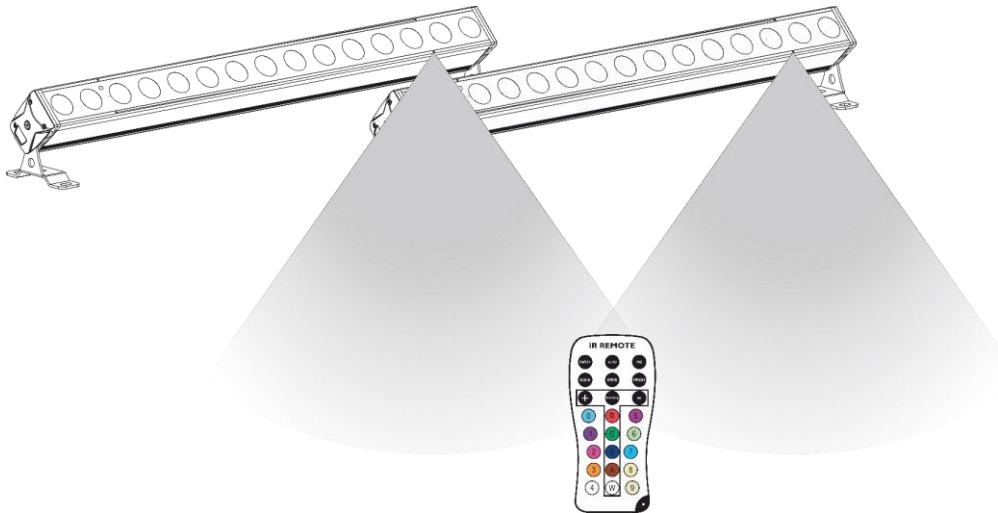
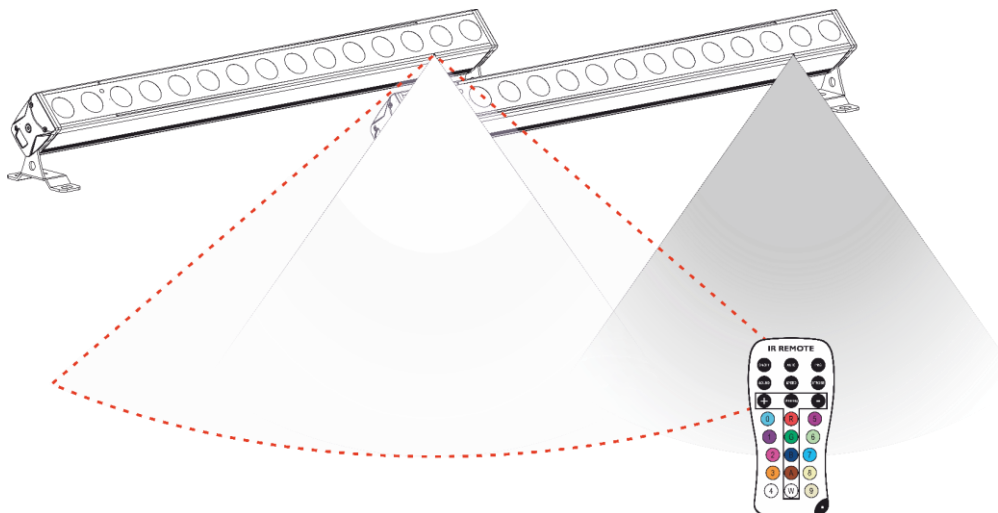

Fig. 11
Fig. 12
You can control several devices at the same time with the remote control. Make sure that you point the remote control to the **infrared sensor (03)** of the device or group of devices that you want to control, as shown in Fig. 11. If you point the remote control to the **infrared sensor (03)** of the device outside of the range of the sensor, the device will not respond to the remote control (Fig. 12).